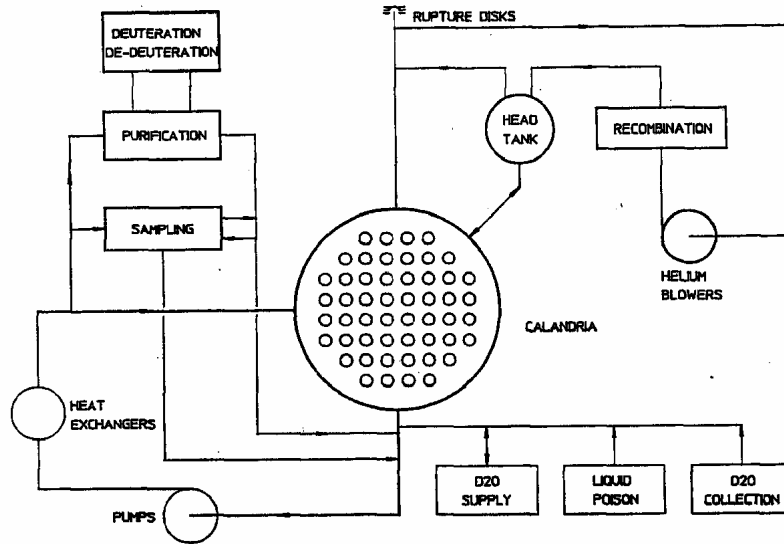
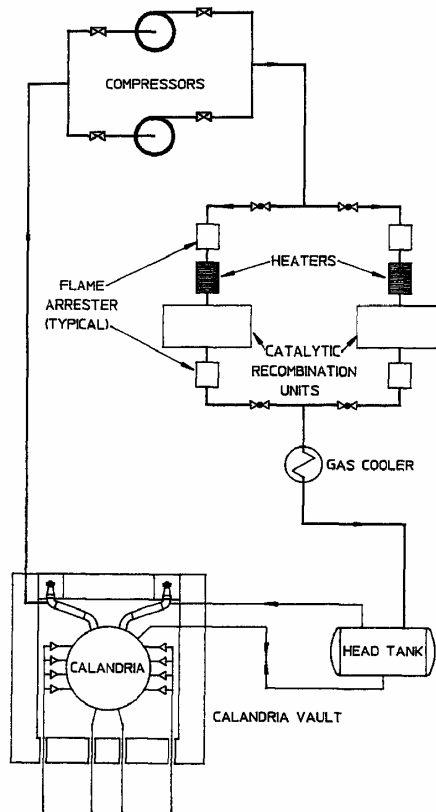
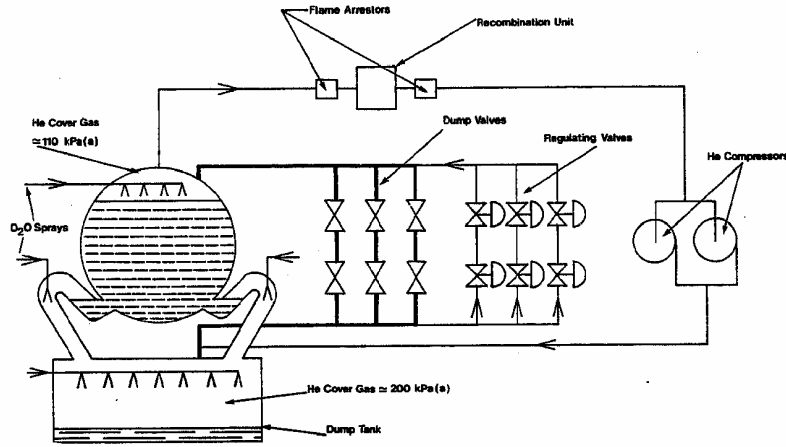

Figure 13.1
Figure 13.2
Figure 13.3
Figure 13.1 shows the connections between the auxiliary systems and the main system. Notice how moderator pump pressure provides flow through the purification system.
Figure 13.1 is not a realistic drawing. Systems differ from station to station. For example, some stations connect the purification system downstream from the heat exchangers, taking advantage of the cool D₂O they provide. Other stations connect the purification system at the pump discharge to get better flow, and then provide a separate purification system heat exchanger.
Figure 13.2 and the upper right hand corner of Figure 13.1 show the cover gas system. Figure 13.3 shows the layout for a system with a dump tank.
Recall that rupture disks also protect the calandria from high pressure. Figure 13.1 shows these.
Figures 13.2 and 13.3 show several common features. We will describe these first, and then discuss additional functions for the moderator cover gas system for reactors with moderator dump.
- A head tank helps maintain a full calandria in the system without dump. The cover gas fills ducts above the calandria. Figure 13.2 shows head tank and ducts.
Figure 13.3 shows calandria spray nozzles that cool the exposed calandria, calandria tubes and guide tubes. The figure shows similar sprays for the dump port and dump tank. The sprays operate continuously, both when the moderator is in the calandria and when it is in the dump tank.